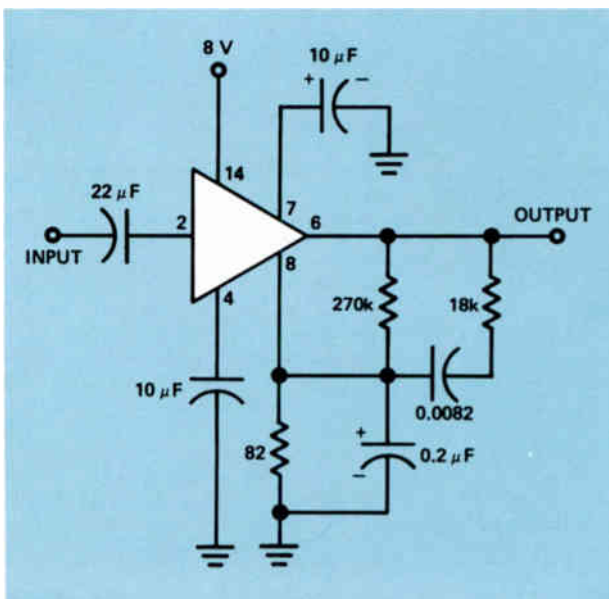

Figure 4. An IC low-frequency amplifier.
Integrated circuits are also used as low-frequency voltage amplifiers. A typical circuit is shown in Fig.4. This circuit is actually the input circuit of one channel of a stereo tape player. The input circuit for the other channel is contained in the same IC.
You might not expect an amplifier such as shown in Fig.4 to have a very high gain because it shows only one block for the IC. However, there is no way of telling what is inside the integrated circuit. Usually there will be a number of stages connected in cascade so that the amplifier normally has considerable gain. Most often amplifiers of this type have a gain of 100 or more.
Figure 8 is a schematic diagram of one-half of an IC that contains two operational amplifiers. The other half consists of another operational amplifier that is identical to the one shown. The diodes D_1 through D_4 are used to help maintain a constant input voltage to the input transistors, Q_1 and Q_2 . D_5 and D_6 are used to help maintain a constant base voltage to the two constant-current sources, Q_3 and Q_6 . Notice that the input to Q_1 is the noninverting input, and the input to Q_2 is the inverting input. The output from Q_1 connects directly to Q_4 and the output from Q_2 connects directly to Q_5 . The output from Q_5 connects directly to the combination of Q_7 and Q_8 , which form an emitter-follower. This type of amplifier has considerable gain and could be used as an amplifier in a stereo system, as shown in Fig.4. The amplifier we have shown will be used in one channel, while the other identical amplifier in the IC is used for the other channel.
- 4 In the circuit shown in Fig.4, if the voltage applied to terminal 14 is normal, you have an input signal voltage on terminal 2 and all other parts check good, yet there is no output on terminal 6, what should you do?